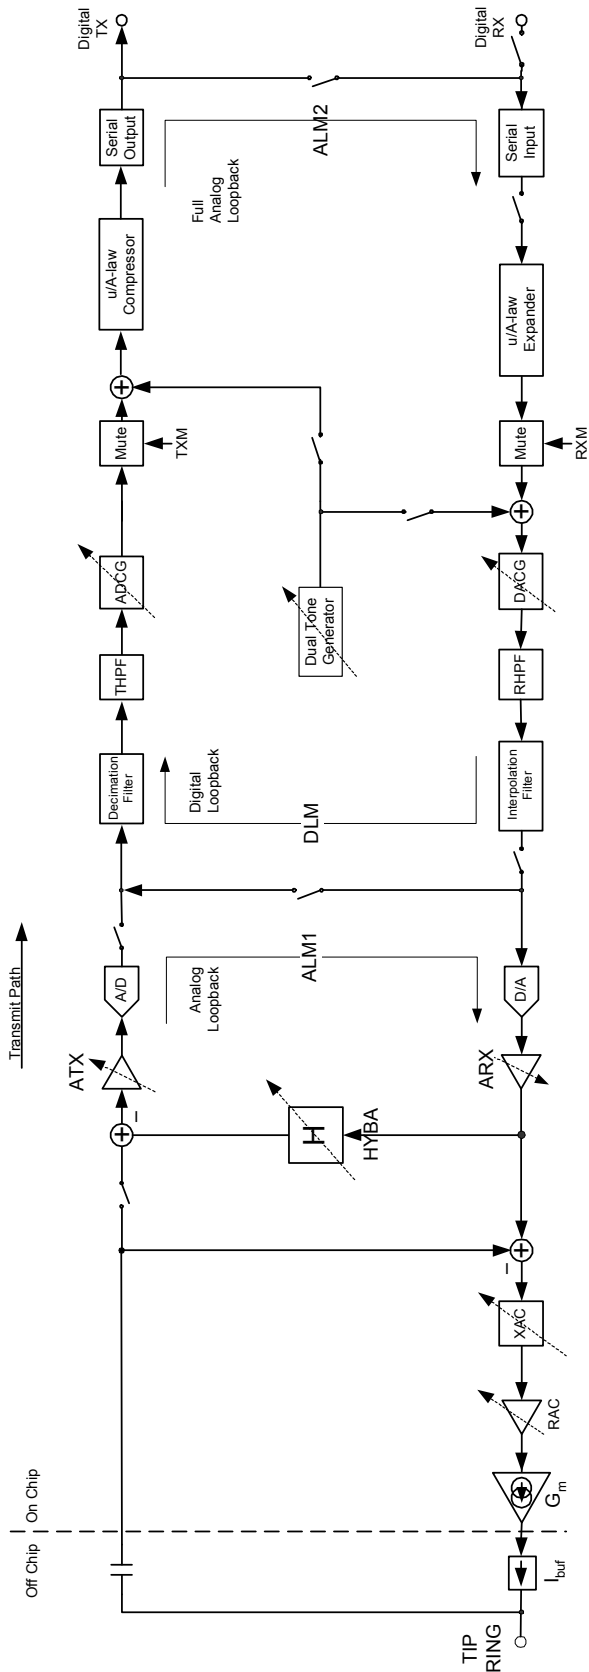

Figure 24. AC Signal Path Block Diagram
Unlike traditional SLICs, the codec function is integrated into the ProSLIC. The 16-bit codec offers software-selectable 200 Hz to 3.4 kHz narrowband and 50 Hz to 7 kHz (Si3216 only) wideband audio modes, programmable gain/attenuation blocks, and several loop-back modes. The signal path block diagram is shown in Figure 24.
The ProSLIC provides programmable transhybrid balance with gain block H. (See Figure 24.) In the ideal case where the synthesized SLIC impedance exactly matches the subscriber loop impedance, the transhybrid balance should be set to subtract a  $-6$  dB level from the transmit path signal. The transhybrid balance gain can be adjusted from  $-2.77$  dB to  $+4.08$  dB around the ideal setting of  $-6$  dB by programming the HYBA[2:0] bits of the Hybrid Control register (direct Register 11). Adjusting any of the analog or digital gain blocks does not require any modification of the transhybrid balance gain block, as the transhybrid gain is subtracted from the transmit path signal prior to any gain adjustment stages. The transhybrid balance can also be disabled, if desired, using the appropriate register setting.
- The full analog loopback (ALM2) tests almost all the circuitry of both the transmit and receive paths. The transmit data stream is fed back serially to the input of the receive path expander. (See Figure 24.) The signal path starts with the analog signal at the input of the transmit path and ends with an analog signal at the output of the receive path.
- An additional analog loopback (ALM1) takes the digital stream at the output of the A/D converter and feeds it back to the D/A converter. (See Figure 24.) The signal path starts with the analog signal at the input of the transmit path and ends with an analog signal at the output of the receive path. This loopback option allows testing of the analog signal processing circuitry of the ProSLIC completely independently of any activity in the DSP.
- The full digital loopback tests almost all the circuitry of both the transmit and receive paths. The analog signal at the output of the receive path is fed back to the input of the transmit path by way of the hybrid filter path. (See Figure 24.) The signal path starts with PCM data input to the receive path and ends with PCM data at the output of the transmit path.
Real and complex two-wire impedances are realized by internal feedback of a programmable amplifier (RAC), a switched capacitor network (XAC), and a transconductance amplifier ( $G_m$ ) (See Figure 24.) RAC creates the real portion, and XAC creates the imaginary portion of the ac impedance.  $G_m$  then creates a current that models the desired impedance value to the subscriber loop. The differential ac current is fed to the